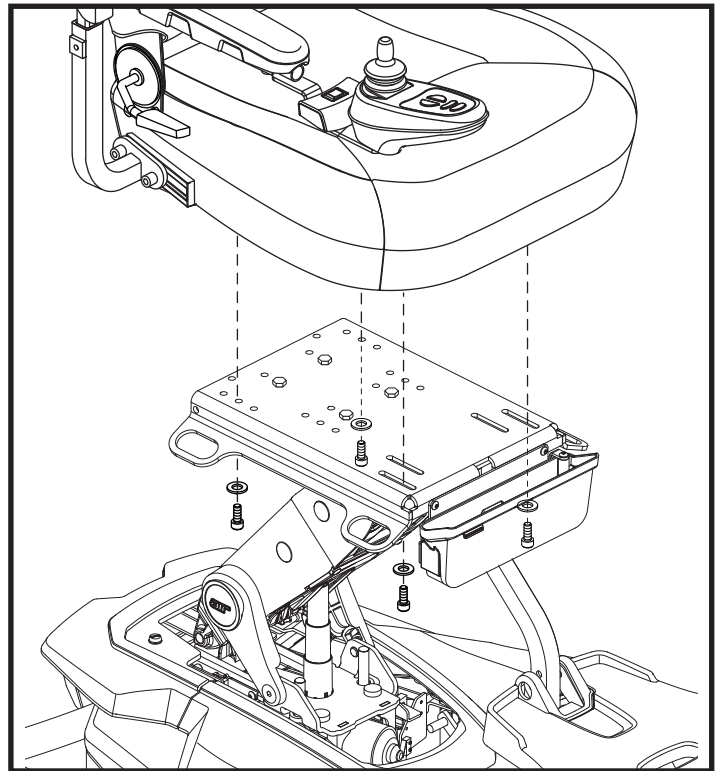

Figure 10. Seat Installation
9. Tip the seat backward. Insert the front bolt with washer through the slot in the seat plate and align with tapped hole in the underside of the seat. Start tightening by hand, leaving the bolts loose. **See figure 10.**